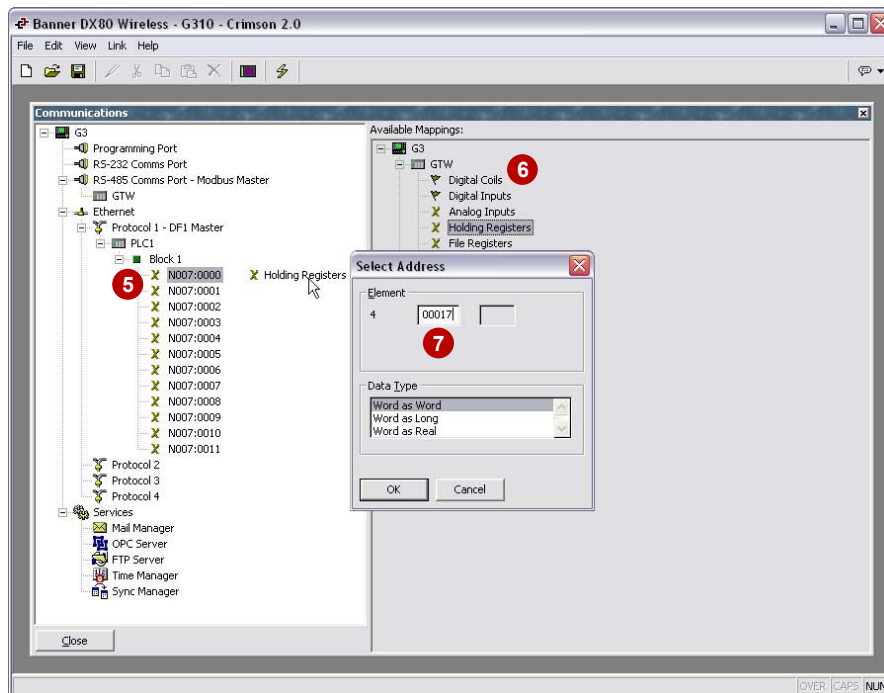

Figure 31
5. Select the first address N7:000. Other devices and tags are now visible (Figure 31)